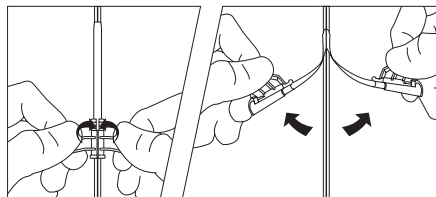

Figure 6
26. Grasp tabs of peel-away sheath and pull apart, away from the catheter, while withdrawing from vessel (refer to Figure 6) until sheath splits down its entire length.